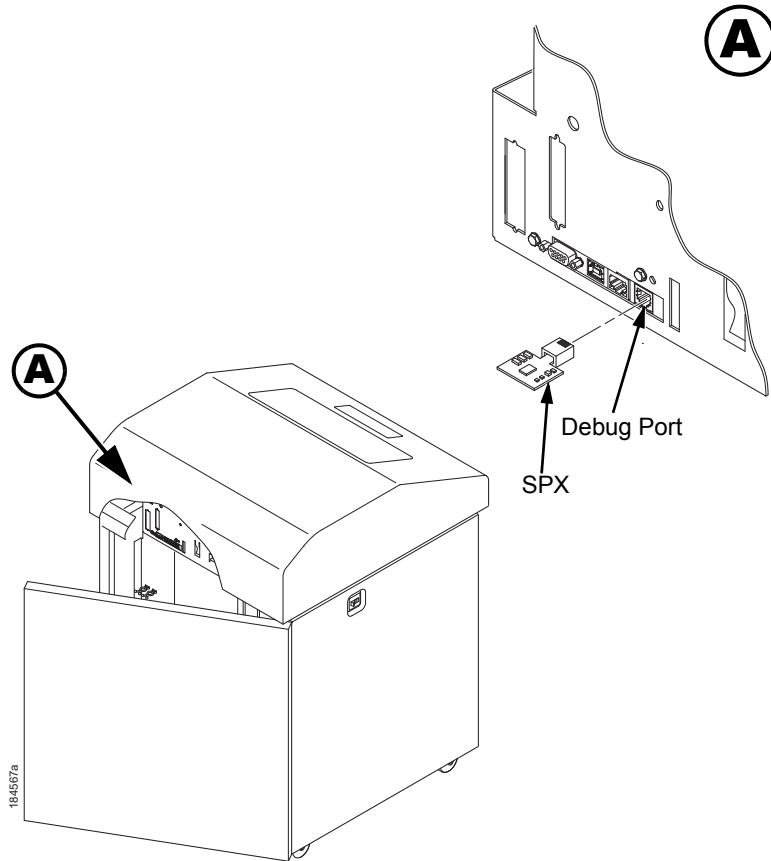

Figure 27. Inserting The SPX into the Debug Port
2. On cabinet models, open the rear door. On pedestal models, refer to Figure 27 to locate the debug port at the rear of the printer.